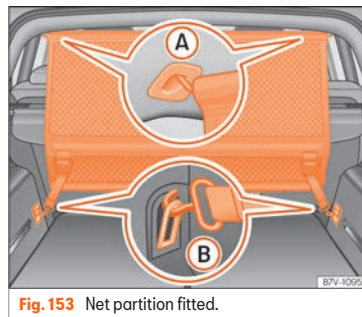

Fig. 153 Net partition fitted.
- Secure the net partition in the left housing of the roof »» **Fig. 153** A. Make sure to move the cross rod down beyond the upper position.
- Hook in the net partition on the rear right-hand side roof housing by pressing on the rod »» Fig. 153 (A).
- Secure two hooks of the partition net to the fastening rings of the boot »» Fig. 153 (B) and tighten the straps firmly.
- Release the net hooks from the fastening rings »» Fig. 153 (B).
- Unhook the net partition on the right-hand side roof support »» Fig. 153 (A) by pressing on the rod.